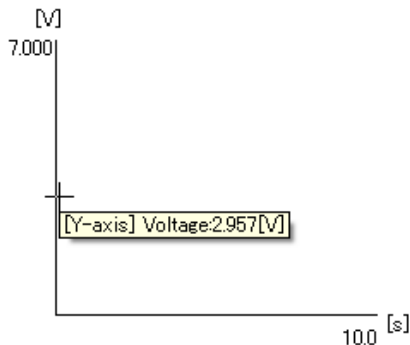
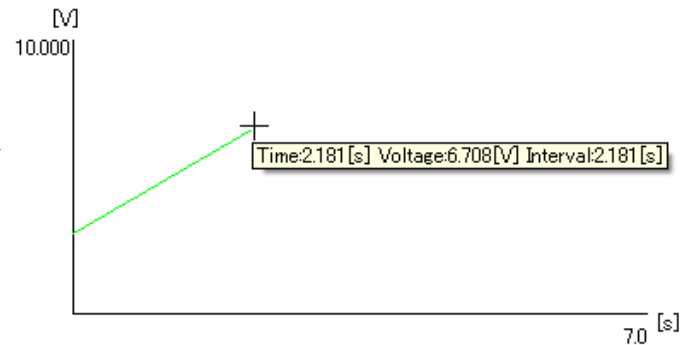

Fig. 7-1 Start Point of the Mouse
Fig. 7-2 Moving the Mouse
- (1) Move the mouse pointer to the Y-axis. This causes the pointer to change to a crosshair (Fig. 7-1). At that location, hold down the left mouse button and drag the mouse with the crosshair (Fig. 7-2).